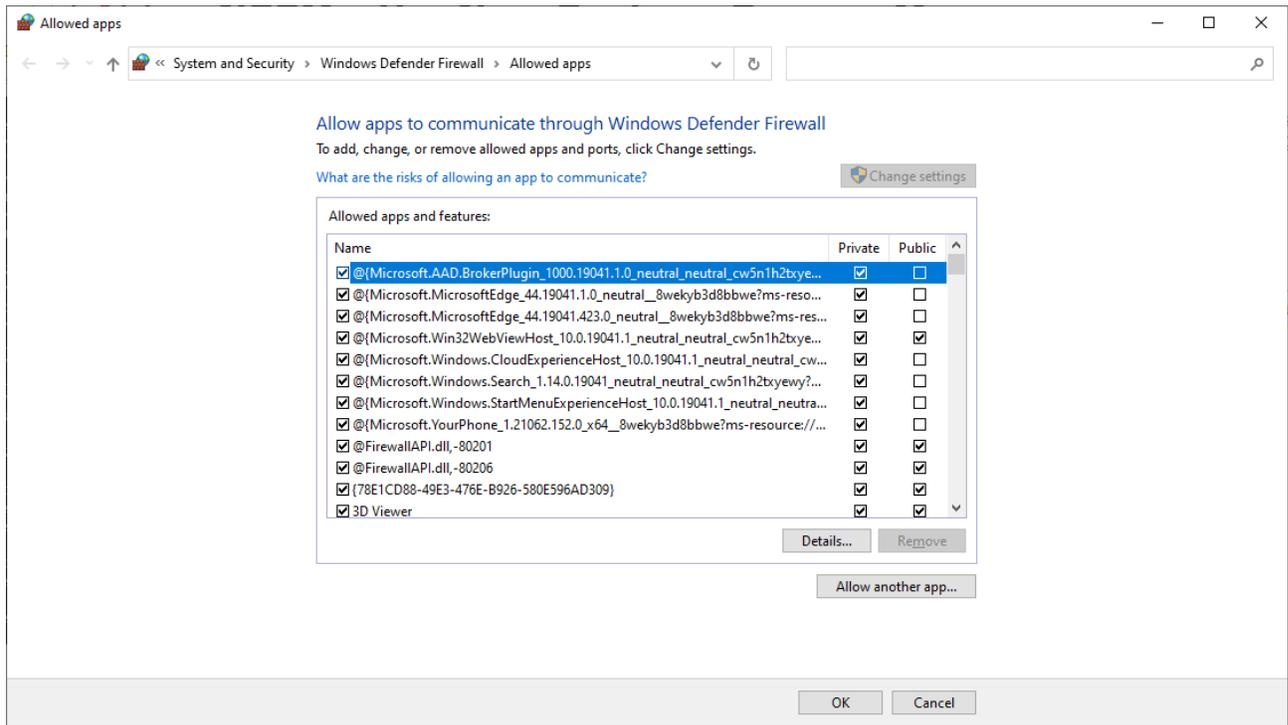

Figure 12: Allowed apps page.
10. In the Allowed Apps page (Figure 12), click **Change settings**, then click **Allow another app...** to open the Add an App dialog box.